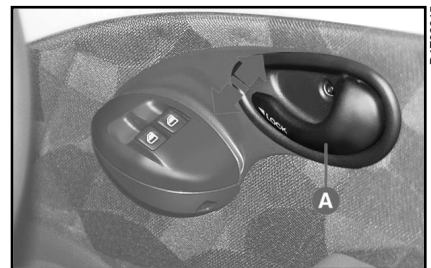

fig. 25
– to open - pull handle **A-fig. 25**;